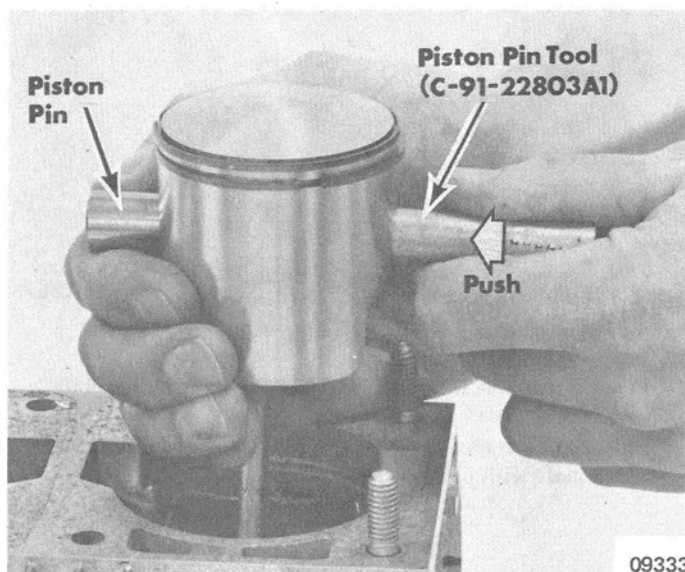

Figure 7. Piston Pin Removal
3. Remove piston pins with Piston Pin Tool (C-91-22803A1). (Figure 7) Remove pistons from connecting rods and reinsert piston pins into respective pistons. Mark each piston to designate with which cylinder it is used.